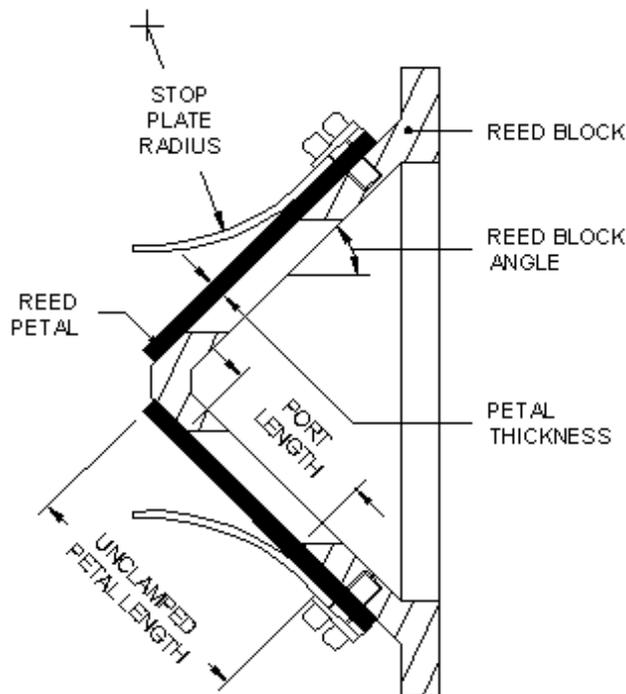

Figure 11
This screen is provided only if you select the reed valve engine option on the *Engine Configuration* screen. Prompts ask you to enter data for the reed valve. A typical reed valve is illustrated in Figure 11. Each reed valve comprises a valve block containing a number of rectangular apertures referred to as ports and at least one pair of petals. When closed the reed petals cover the ports.
- Block Angle. **Note VERY carefully how this angle is defined in Figure 11.**